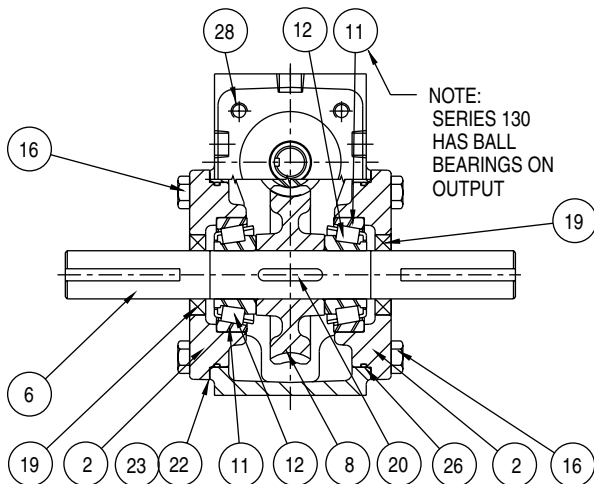
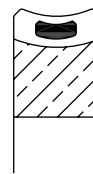

Figure 1 — Typical Output Shaft Assembly
FIGURE 7 – Gear Pattern
All series, with the exception of the Series 130, use a straddle mounted tapered bearing design as shown in Figure 1 on both shaft and hollow bore outputs. Series 130 uses ball bearings.
When reassembling worm and worm gear assemblies, refer to Figures 1 and 2 so that all parts are included in their proper position. Be sure that parts are pressed tightly against one another and that no foreign material is included between them. If shaft has a shoulder, the appropriate gear, spacer, or bearing must be assembled tightly against it.
- A. Insert output assembly carefully into gear case so that worm is meshed with worm gear. Install one each .002 and .005 shims (22) (23) on each Output Cap (2, Figures 1 and 2) and install caps over shaft. Fasten caps and shims to gear case by torquing down cap screws evenly.
- C. Turn Worm Shaft (7) by hand while putting a slight load on output shaft so that worm marks contact points in blueing on gear.
- D. Sight through pipe plug holes with an inspection light and determine if the contact of the worm is centered on both sides of the gear. If worm is not centered, the gear position must be shifted by moving shims from one side to the other. This will maintain proper bearing adjustment. See Figure 7.
6. Oil Seals (13, Figures 1 and 2) can now be installed in input and output caps. Before installing seal, coat O.D. of seal with Permatex and apply grease to seal lips. Force should be applied evenly, with a driver, near the outer edge of the seal until seals are flush with outer surface of caps. If seals must be installed without a seal driver, a rubber hammer or brass driver should be used to protect the seal.